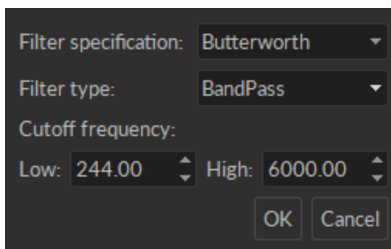

Figure 4.38: Filter Window
- The **Filter** button is used to filter the frequency of data sets. After selecting the data set to be filtered, the filter window (Fig. 4.38) is opened. This allows a choice of filter type and variables.